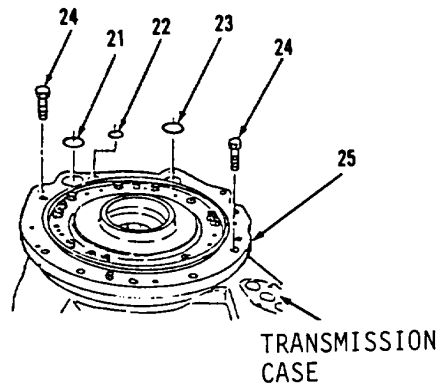

Figure 14-37.
3. Install planetary housing (25) into transmission case being sure parking brake lever on planetary housing (25) enters notch in transmission case.
5. Install two bolts (24) and new preformed packings (23, 22 and 21, Figure 14-37) in planetary housing (25) of transmission case.